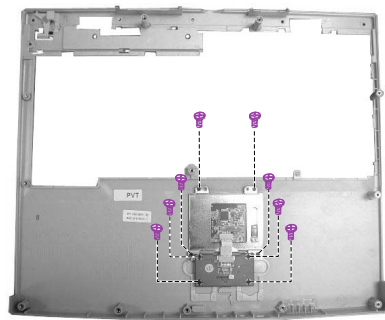

Figure 2-29 Remove the touch pad
2. Remove the eight screws to lift up the touch pad holder and touch pad panel. (Figure 2-29)